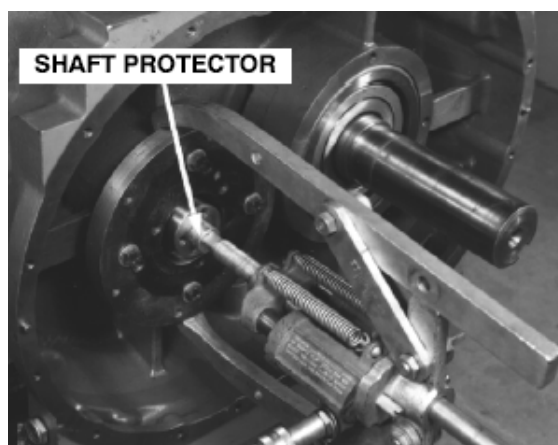

FIGURE 6-9 – PULLER
9. Rig the plate (shown in FIGURE 6-2, page 36) and the puller shown in (FIGURE 6-9) and press the rotor shaft through the bearings. Use a shaft protector. Be sure the bolts holding the plate are threaded into the tapped holes of the bearing housing far enough to prevent stripping of the threads, and evenly adjust so the plate is square with the shaft. Press one rotor through the bearing at a time, then proceed to Step 10. Repeat Steps 9 and 10 on the second rotor.